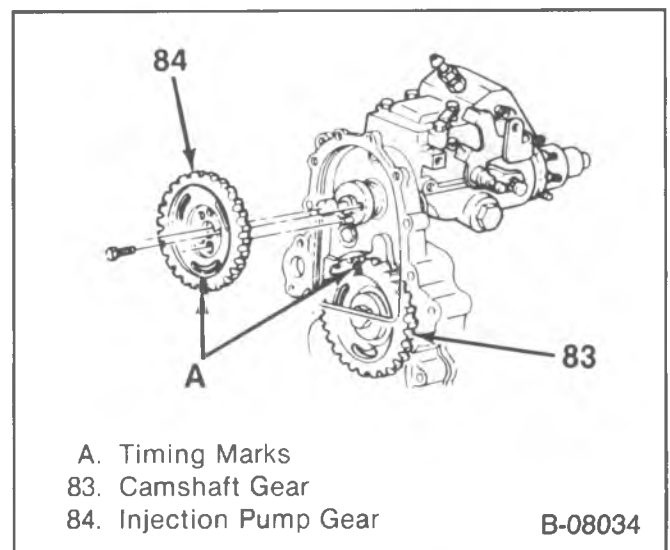

Figure 15—Injection Pump Gear and Timing Marks
- Rotate the engine until the timing marks on the pump gear and camshaft gear are aligned (figure 15).
5. Injection pump gear and bolts. Align the timing marks (figure 15).
- Align the timing marks (figure 15).